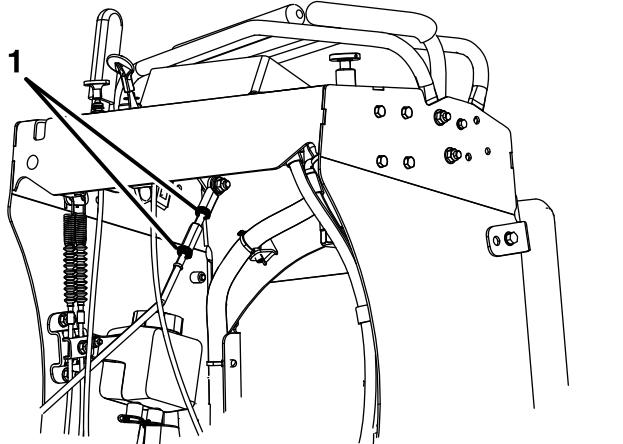

Figure 47
- A. Allow the control levers to return to neutral and loosen the 2 jam nuts on the hex adjustment linkage (Figure 47).
- C. Tighten the jam nuts (Figure 47).